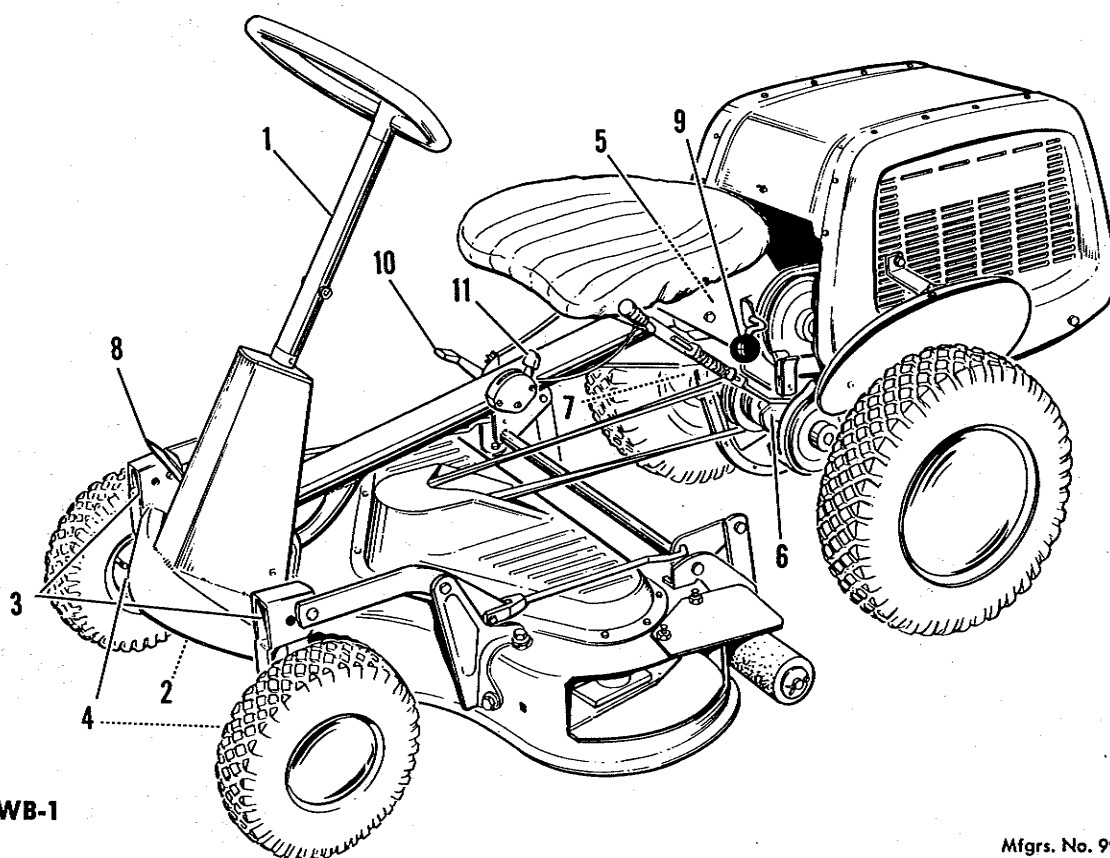

Fig. WB-1
Attach steering wheel column (1), Fig. WB-1, to steering post with $\frac{5}{16}$ screw and nut provided. There are three sets of holes to provide various height settings for the steering wheel. Choose the setting that will be most comfortable for the operator.
- A. Axle pivot pin (2) Fig. WB-1
- B. Front wheel king pins (3) Fig. WB-1
- D. Front wheels (4) Fig. WB-1
- E. Top and side of gear case (5) Fig. WB-1
- F. Power take-off housing (6) Fig. WB-1
- H. Two speed axle housing (7) Fig. WB-1
The foot pedal (8) Fig. WB-1 on the right side of the front axle assembly, controls the clutch. To engage the clutch depress the foot pedal slowly and hold in depressed position while forward or reverse movement of the Wonder-Boy is desired. To declutch the unit, release the foot pedal.
Shift lever (9, Fig. WB-1) when rotated all the way up meshes forward gears. When rotated all the way down, reverse drive gears are meshed. Center position is neutral. When operating, revolve or rotate shift lever to the extreme limit of its up or down travel to insure full engagement of gears.
Moving shift lever (17, Fig. WB-1) toward seat engages high speed gears. Moving shift lever away from seat engages low speed gears. Center position is neutral and is used to permit moving Wonder-Boy when not under its own power. For Wonder-Boy to move under its own power it must be in high or low speed position.
To use the brake, release clutch pedal and revolve shift lever (9, Fig. WB-1) to more tightly mesh the gears. Pull up when traveling forward or push downward when in reverse.
The choke lever (10, Fig. WB-1) should be placed in down position when starting engine. After engine starts, choke lever should be moved to upward position resulting in smoothest engine operation.
The speed selection or shut-off lever (11, Fig. WB-1) is marked to indicate where lever should be placed to vary engine speed or shut-off.